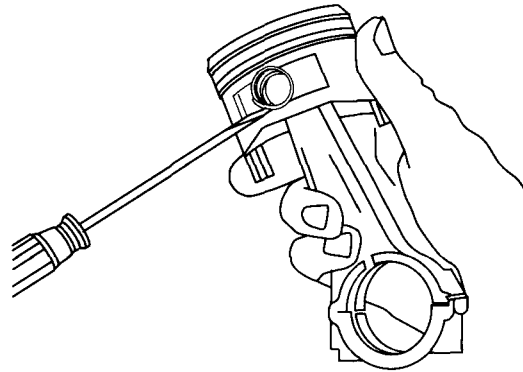

Fig. 2 - Remove Piston Pin Locks
2. Disassemble piston from connecting rod, Fig. 2.